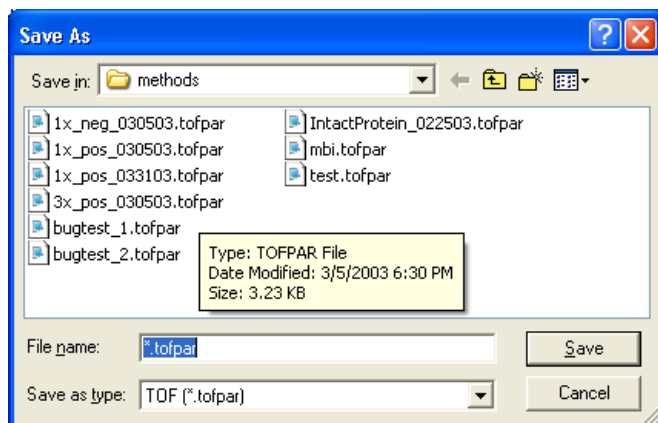

Figure 5-13 Save As Dialog Box for Saving a Method
1. Choose **Method > Save As** to open a Save As dialog box (Figure 5-13).